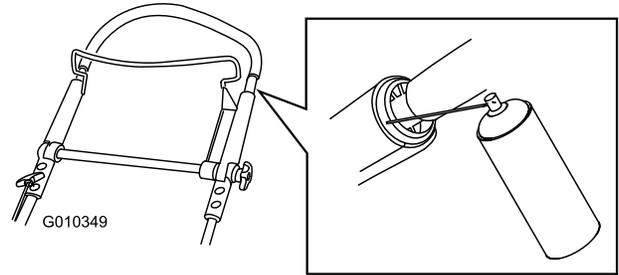

Figure 41
- Spray the outer plastic end of the inner handle (Figure 41).